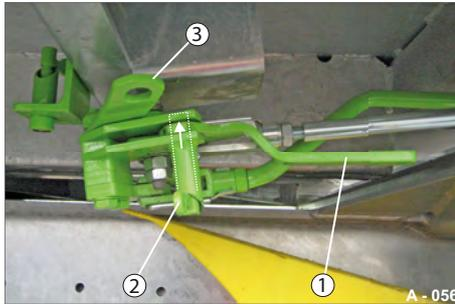

Fig. 52 Drive position- unlocking fixed
- ▶ Check that the semi-automatic unlocking system is in drive position before departing (see Fig. 52).